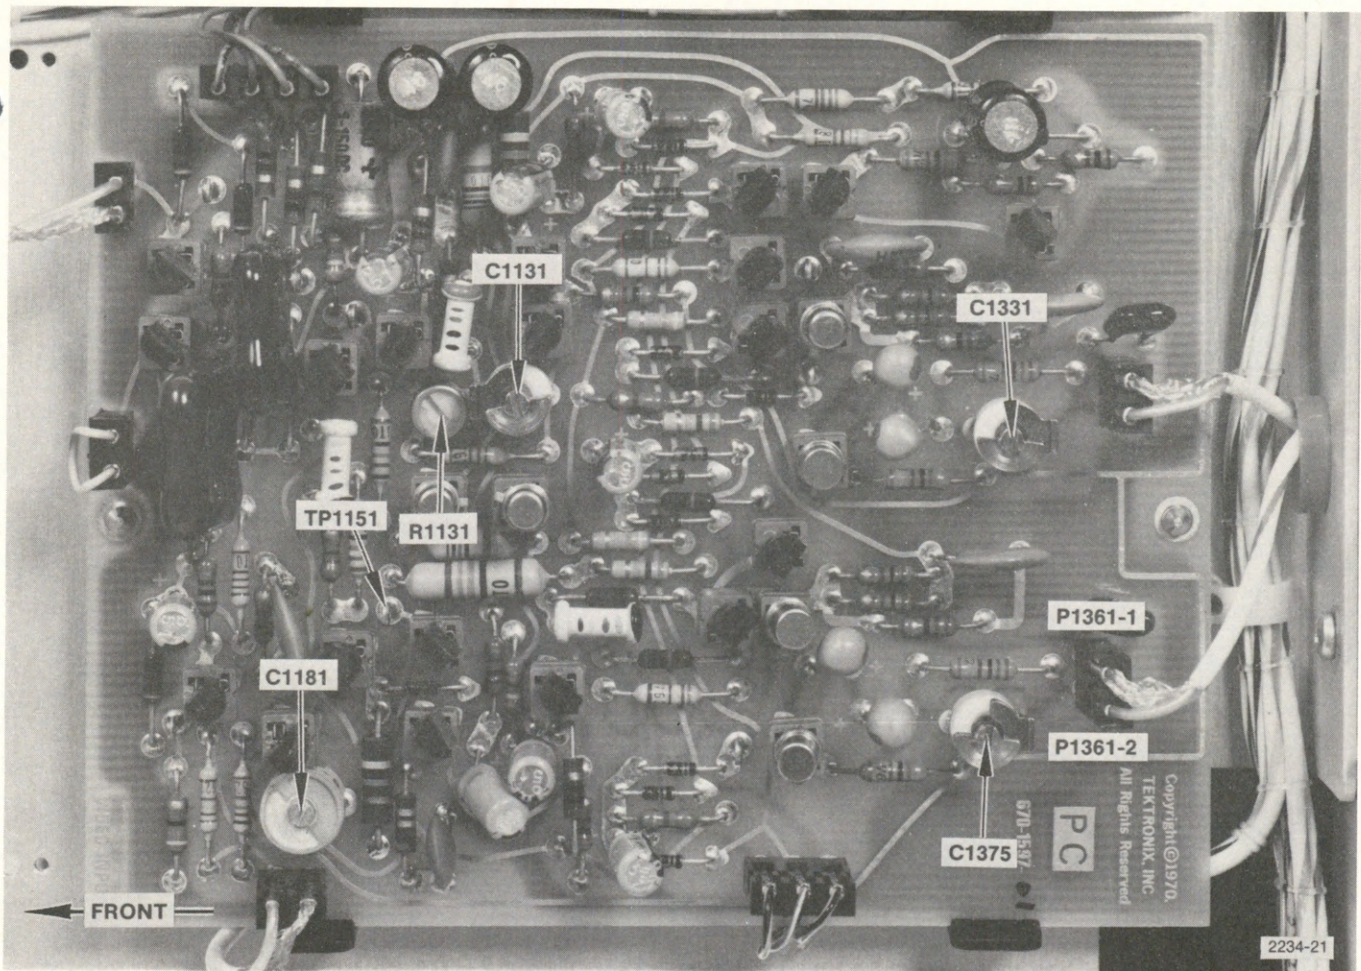

Fig. 6-4. Video Input board test point and adjustment locations.
b. Ac couple the oscilloscope probe to TP1151 (see Fig. 6-4) on the Video Input board. Externally trigger the test oscilloscope from the generator Comp Sync output.
Double check that C1375 and C1331 have been properly adjusted by setting the generator Convergence switch to the Dots (only) position. Dc couple the test oscilloscope probe to P1361-2 (see Fig. 6-4) and the probe ground lead to P1361-1. Note the flat-top shape of the dot pulse as shown in Fig. 1A of this insert. Ac couple the probe to TP1151 and check that the inverted dot pulse has an approximately flat top (see Fig. 1B). If necessary, slightly re-adjust C1331 (INPUT B) and C1375 (INPUT A). Return the generator Convergence switch to the Crosshatch position.
c. CHECK/ADJUST—C1181 and C1131 (see Fig. 6-4) for minimum chrominance amplitude using Fig. 6-11A as a guide. Typical amplitude is approximately 30 mV or less.